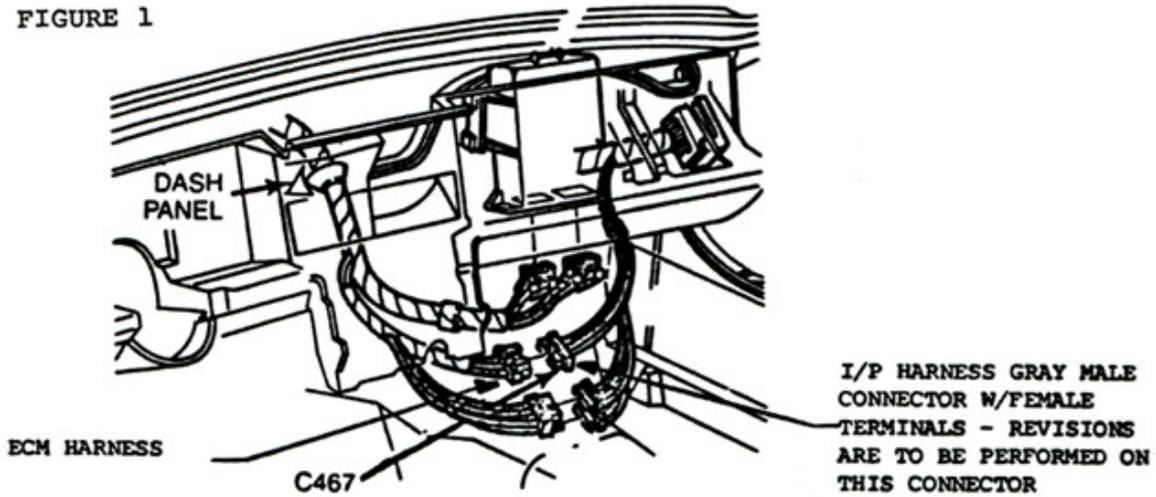

FIGURE 2
11. Loop the signal wire down below the bulk head connector and back up behind the brake booster (see Figure 2.)
12. Route the signal wire along the R.H. hood release cable securing the wire to the cable with three (3) cable ties.